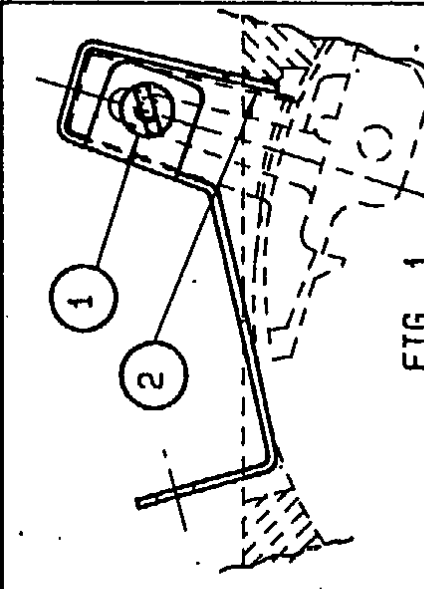

FIG. 1
3. Loosen the two screws (10-32 x 3/8") Fig. 1, item 1, so that the blocking device can be positioned and fully seated over the toggle handle, as shown in Fig. 1.
The short lip of the blocking device, Fig. 1, detail 2, has been undercut so that the blocking device can be removed. To permit padlocking a handle "ON", snap off this removable tab and discard.